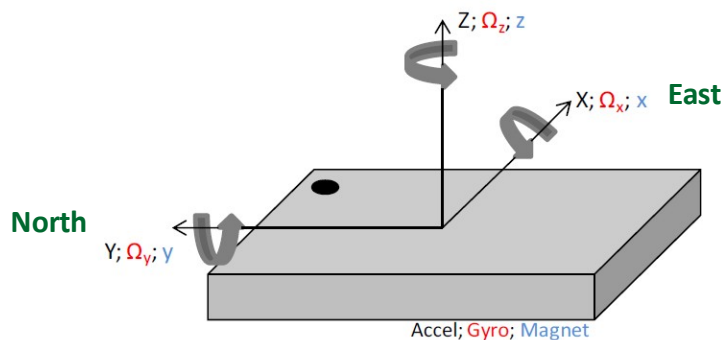

Figure 1 BNO055 coordinate definition
The user can switch between Windows or the Android orientation format. By default however, the sensor axes orientation of the sensor is of Android format as shown in Figure 1. The Android rotation vector definition can be found at http://developer.android.com/guide/topics/sensors/sensors_motion.html
- Heading: rotation around the Z axis ($0^\circ \leq \text{heading} < 360^\circ$). 0° = North, 90° = East, 180° = South, 270° = West. The heading value increases when you rotate around the Z axis clockwise from top view of Figure 1.